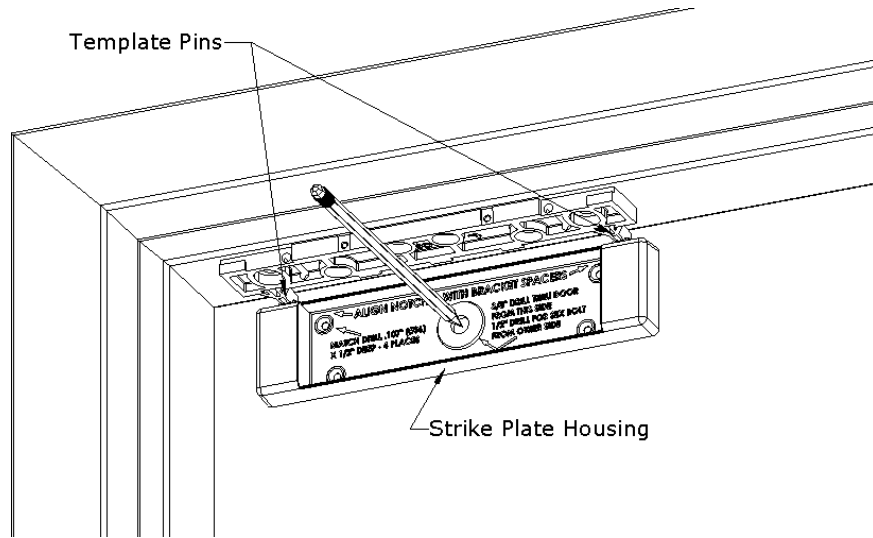

Figure 13. Marking the Strike Plate Housing Hole Locations
7. MARK the strike plate housing hole locations (see Figure 13, “Marking the Strike Plate Housing Hole Locations”).